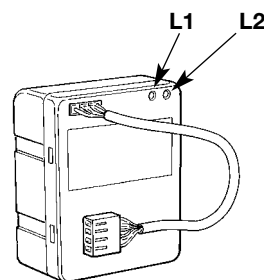

Fig. 1
The PR1 buffer battery (Fig.1) may only be installed in gate automation systems equipped with MHOUSE control units. The battery enables the storage of energy while the automation is powered by the electrical mains, energy that is returned to the system in the event of a power failure (buffer operation); it enables approximately ten gate activations in the absence of power from the electrical mains.
- Make sure that the “L2” LED (Fig.1) is on, showing that the battery is supplying energy to the system. Make sure that the different LEDs on the control unit signal that the latter is operating properly.
- Connect the automation system to the mains power supply and see whether the “L1” LED (Fig.1) lights up to signal that the battery is recharging correctly.
- Disconnect the automation system from the electrical mains; make sure that the “L2” LED (Fig.1) lights up, then activate at least one opening and closing manoeuvre to make sure that the system operates properly also when it is powered by the battery.